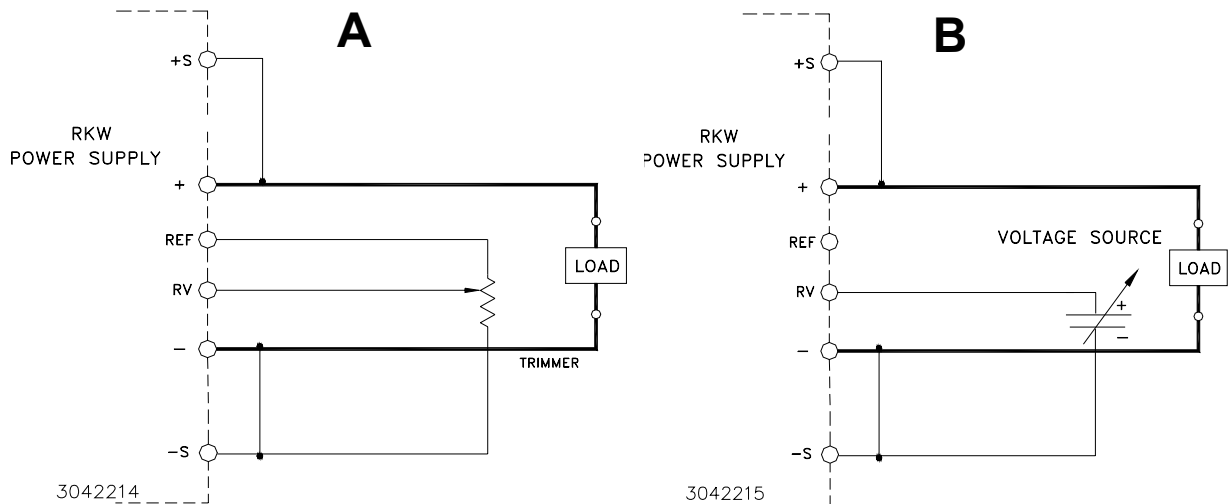

FIGURE 5. CONNECTIONS FOR REMOTE VOLTAGE CONTROL
RESISTANCE: Use a shielded wire 6.6 feet (2M) maximum in length, for connection (of REF, RV, and –S terminals) to the trimmer control. Connect the external trimmer as shown in Figure 5 (A). Suggested value for the trimmer control is 5K ohms). With the external trimmer control at its maximum clockwise position, set the output voltage to the desired maximum value by adjusting V_{adj} clockwise. The value should range from 0 to 120% of E_o nominal (from 0 to 110% for the 48-volt model, and for the 3-volt model). The remote voltage control may not be able to go down to zero volts because of the residual resistance of the potentiometer (could be about 10%).
VOLTAGE. By adjusting an external 0-6V voltage source (0-5.5V for the 48-volt model) from minimum to maximum, the maximum output voltage can be adjusted from 0 to 120% (V) (for the 3.3 volt and 48 volt models 110%). Remove the shorting link between the REF and RV terminals. Connect the voltage source across the RV and (–)S terminals as shown in Figure 5 (B).